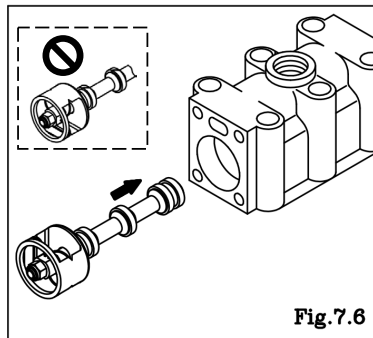

Fig.7.6
- Install the C Spool Valve Assembly as shown in the Fig.7.6.